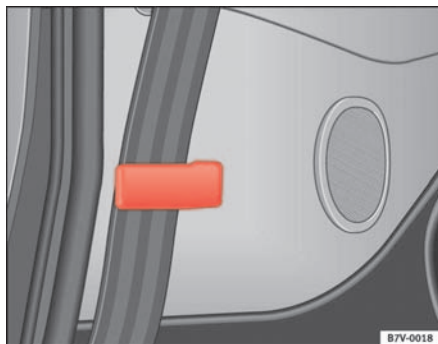

Fig. 20 Belt retainer for outer seats in centre row
- When the belt for the outer seats in the centre row is removed insert the webbing behind the guide of the side trim ⇒ fig. 20, in order to lower the backrest without damaging the webbing.